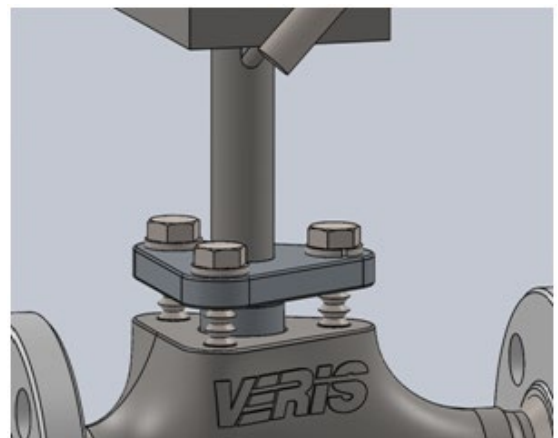

Figure 10. Final Packing Bolt Installation
- Progressively tighten each bolt in an alternating pattern until the torque is 70 in-lb (7.9 N-m) for all three bolts (See Figure 10).